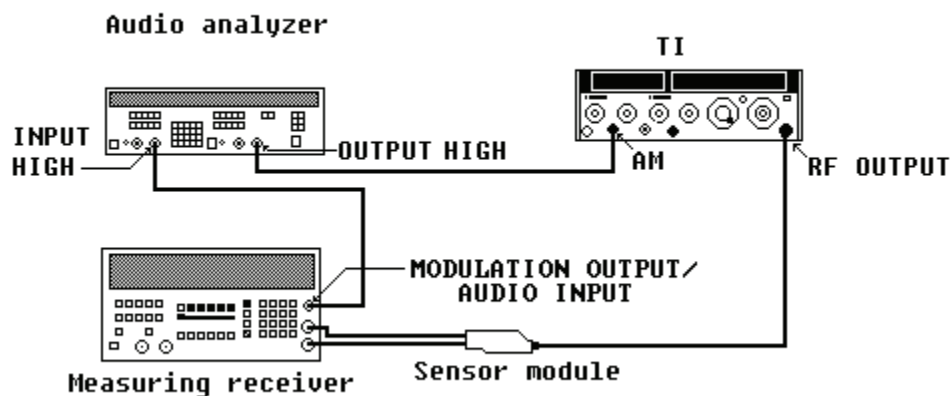

Figure 5. AM - equipment setup.
(1) Connect equipment as shown in figure 5.
- (1) Connect equipment as shown in figure 5.
- (2) Position controls as listed in (a) through (m) below.